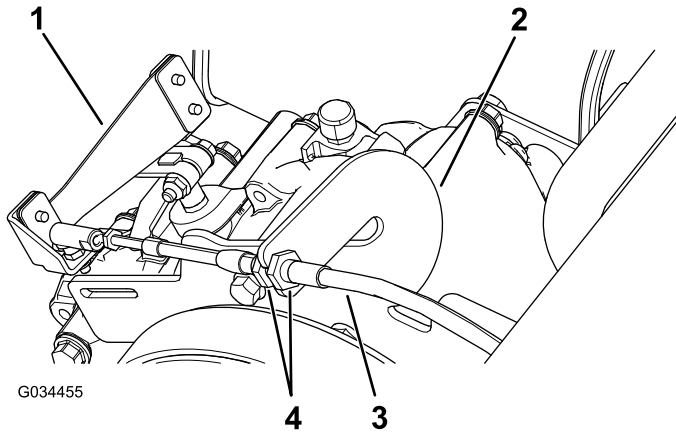

Figure 61
1. Loosen the jam nuts on the gear-shift cable and adjust them as necessary (Figure 61).
2. Test the gear-shift position by rotating the gear-shift selector to the 3 different positions and check to see if the shift lever (Figure 61) shifts properly when shifting the gears; refer to Gear-Shift Lever and Gear-Shift Indicator (page 14).